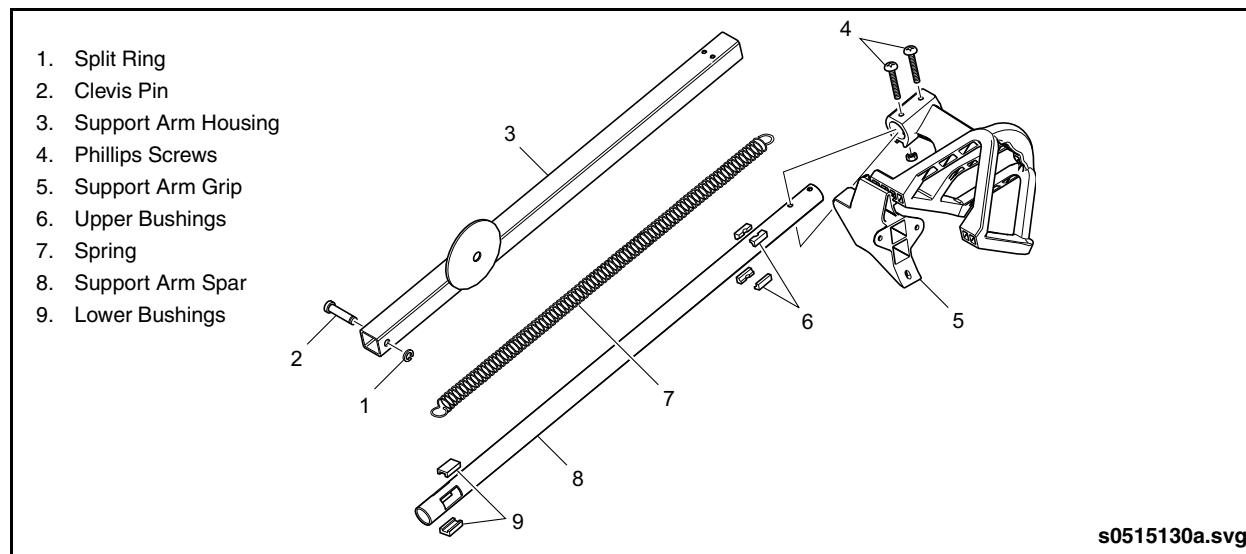

Fig. 13-25: Support Arm Servicing
1. Examine components inside the support arm assembly. See "Fig. 13-25: Support Arm Servicing" on page 60.